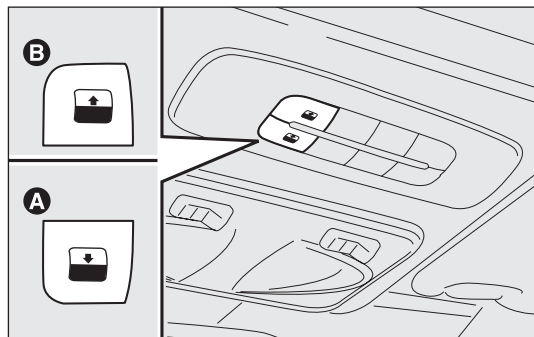

fig. 65
The large electric sunroof comprises two panes of glass, one of which is mobile and the other fixed. These are equipped with two shutters (front and rear) that can be moved manually. The shutters can be used in “fully closed” or “fully open” positions (they have no fixed intermediate positions). To open the shutters: grip the handle A-fig. 65, release it and pull it in the direction of the arrows to the “fully open” position. To close them, carry out the procedure in reverse. The sun roof can be operated only with the ignition key turned to MAR.
The controls A-B fig. 65 on a dedicated control panel near the front ceiling lights open and close the sunroof.
Press and hold button B-fig. 65, and the front pane will move to the “spoiler” position; press button B-fig. 65 again for over half a second to make the sunroof slide automatically to the fully open position; press the button once more to stop the sunroof at an intermediate position.
From the fully open position, press button A-fig. 65 for over half a second to move the front pane to the “spoiler” position; press the button again to stop the sunroof at an intermediate position; press button A-fig. 65 once more and hold it down to close the sunroof completely.
- press button A-fig. 65 in closing position;